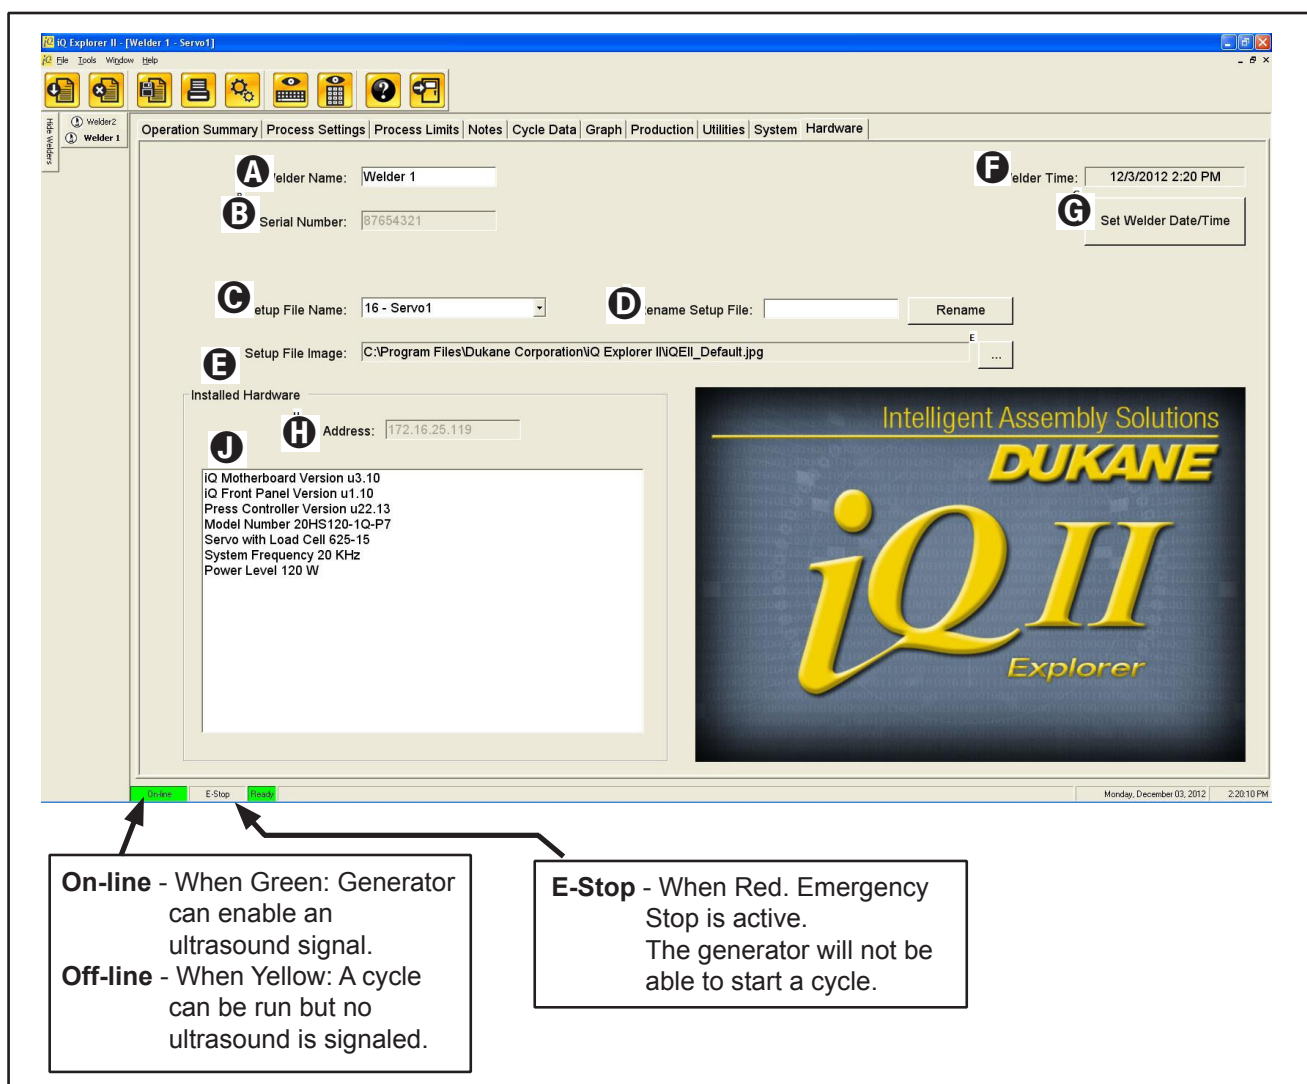

Figure 4-31 Setup - Hardware
3. The Hardware tab is the initial tab displayed following selection of a welder. This tab contains information specific to the identification of the welder itself. See Figure 4-31 below for location of the items in the list that follows.